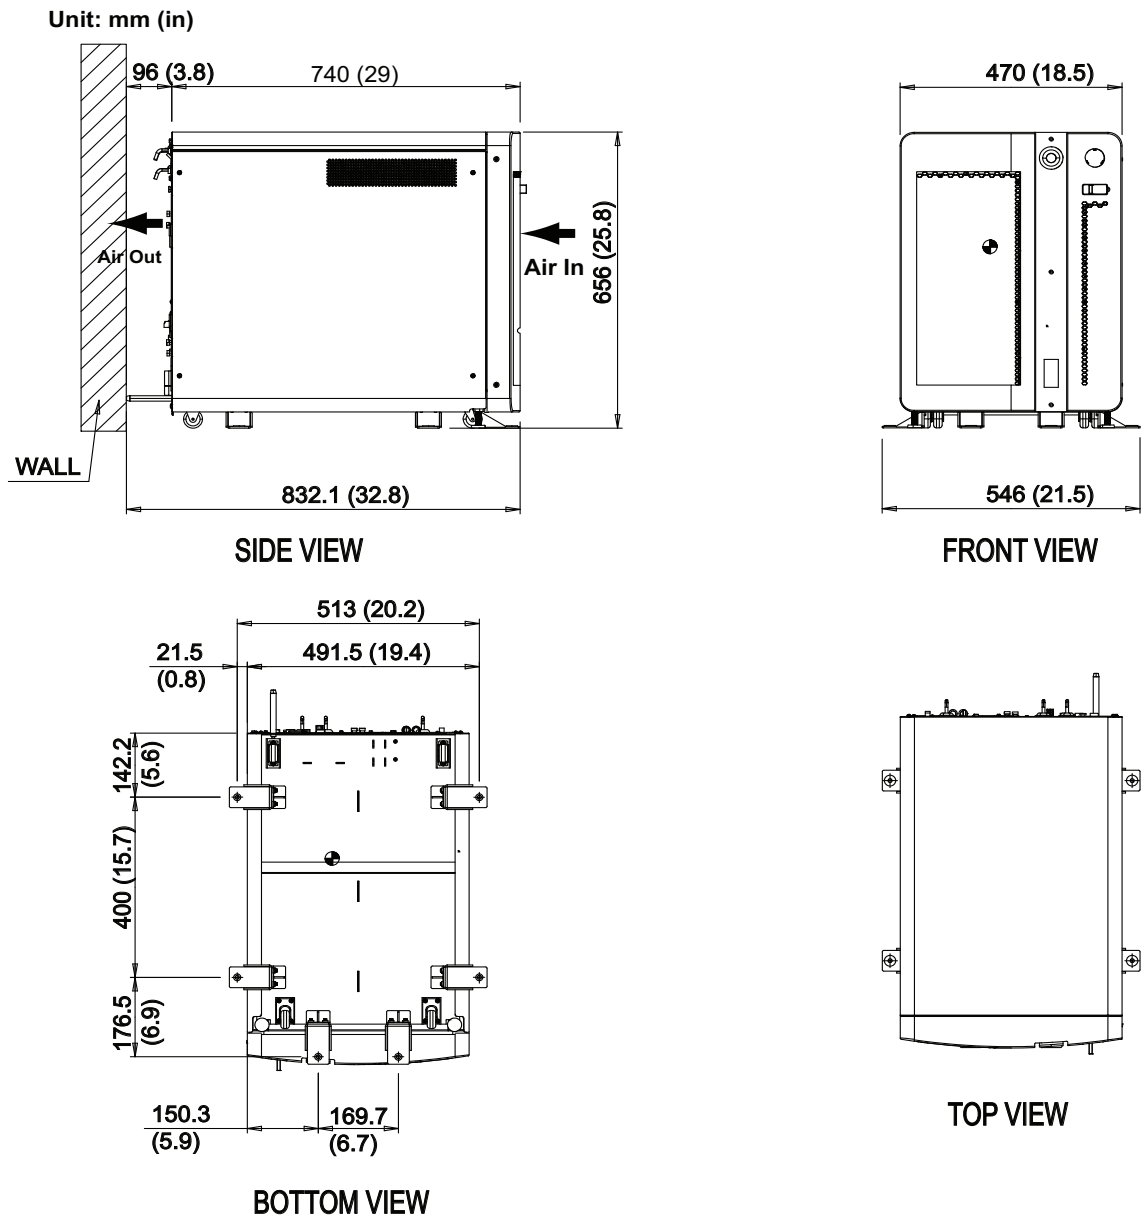

Figure 8-21 Console Center-of-Gravity
- Console: Figure 8-21 ~ Figure 8-23